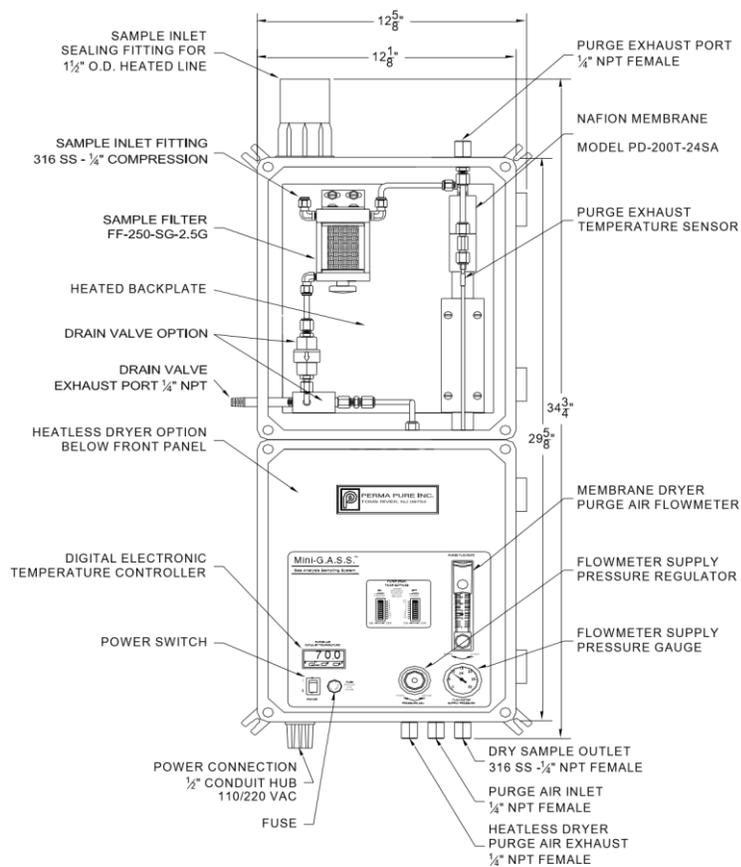

Figure 3 - Mini-GASS Sampling System
2. A 1/4" FNPT bulkhead fitting on bottom of enclosure is the heatless dryer purge air exhaust, see figure 3. Humid air can be vented to atmosphere or piped to a remote location. Use suitable size piping.